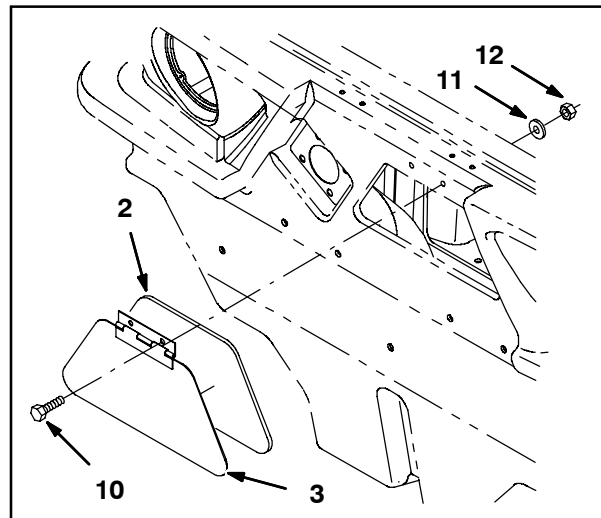

FIG. 6
9. Install the vacuum wand door gasket (2) onto the vacuum wand door. Refer to Fig. 6.
10. Use two hex screws (10), two flat washers (11), and two hex nuts (12) to install the vacuum wand door onto the hopper. Refer to Fig. 6.